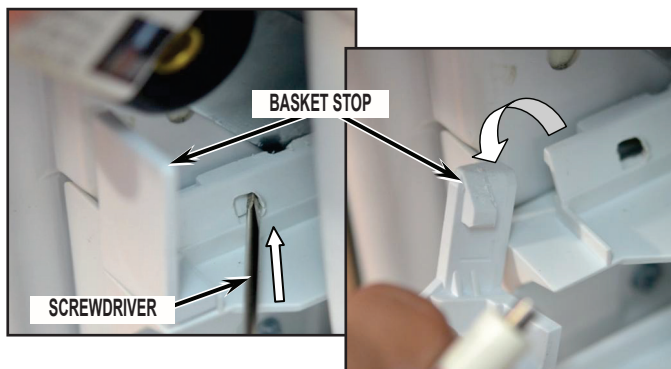

FIGURE 1
3. Insert a stiff blade putty knife behind the rail past the basket stop and force the rail inward while inserting a small blade screwdriver into the square slot in the rail. Pry out the freezer basket stop. Only one stop needs to be removed. See *Figure 1*.